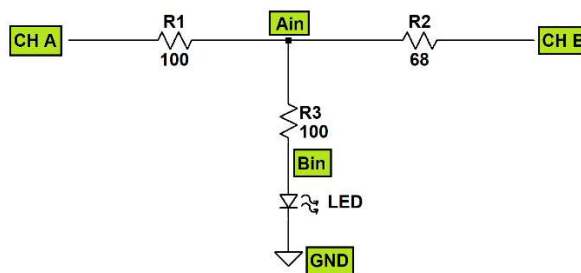

Figure C-1: Non-linear Circuit
In Figure C-1, we see a circuit with two input voltages. This circuit is very similar to the superposition circuit seen in experiment 11, In this case, we are going to look at the current through resistor R3. If the circuit was linear, then using experiment 11 concepts, we could write the current as
6) Implement the circuit in Figure C-1 on your protoboard and measure the voltage across R3 with the following voltages